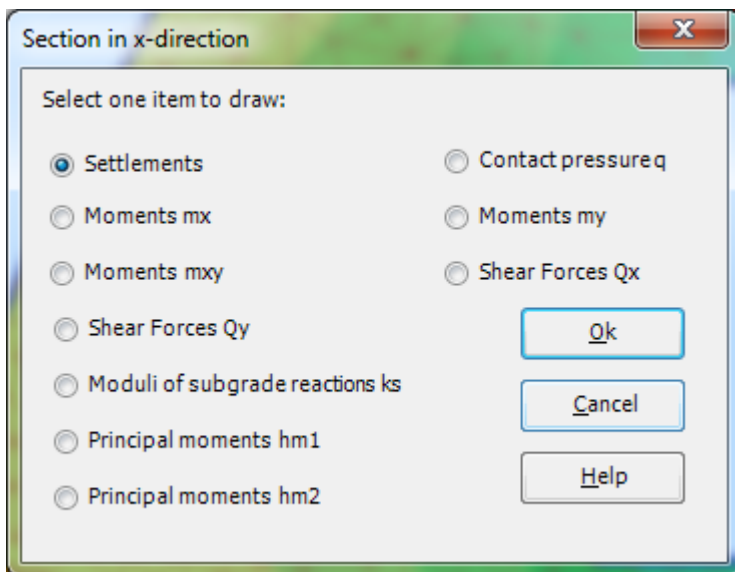

Figure 10.39 "Section in x -direction" option box
- Choose "Section in x -direction" command from "Section" menu. The following option box in Figure 10.39 appears